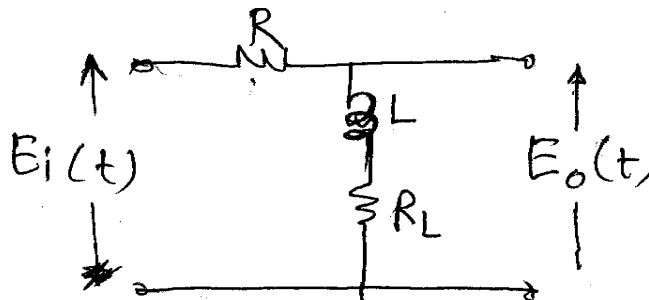

Fig. 1c
- c) Find the transfer function for the network shown in fig. 1c; Given $L = 1\text{h}$, $R = 2\Omega$ and $R_L = 4\Omega$ show the location of poles and zeros. 8